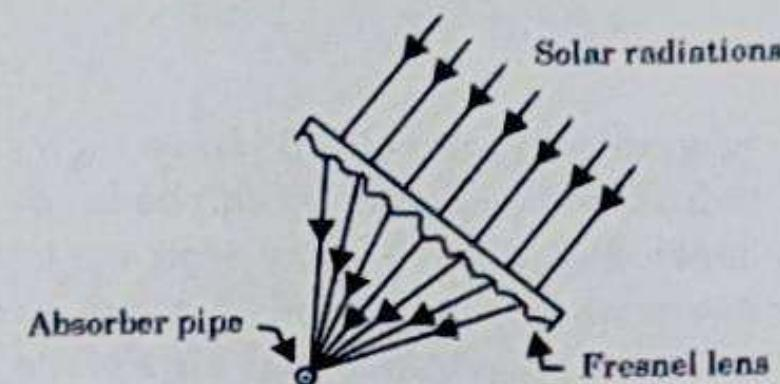

Fig. 2.14.4. Fresnel lens collector.
2. The solar radiations which fall normal to the lens are refracted by the lens and are focused on the absorber (tube) as shown in Fig. 2.14.4.